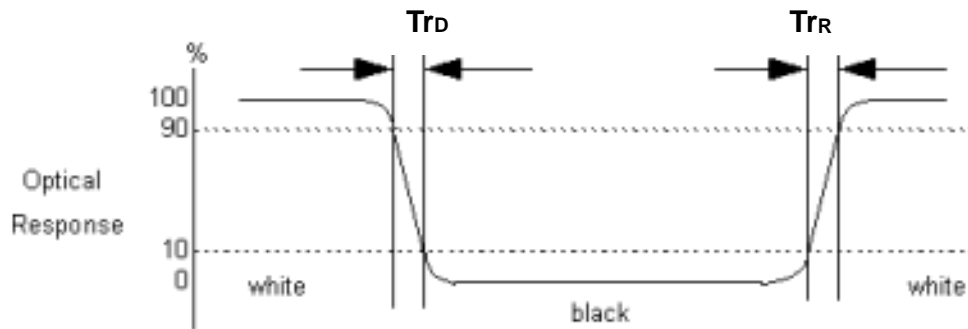

Fig.4-3 Response time
4. Response time is the time required for the display to transition from white(L255) to black(L0) (Decay Time,  $T_{rD} = T_f$ ) and from black(L0) to white(L255) (Rise Time,  $T_{rR} = T_r$ ). For additional information see FIG4-3.